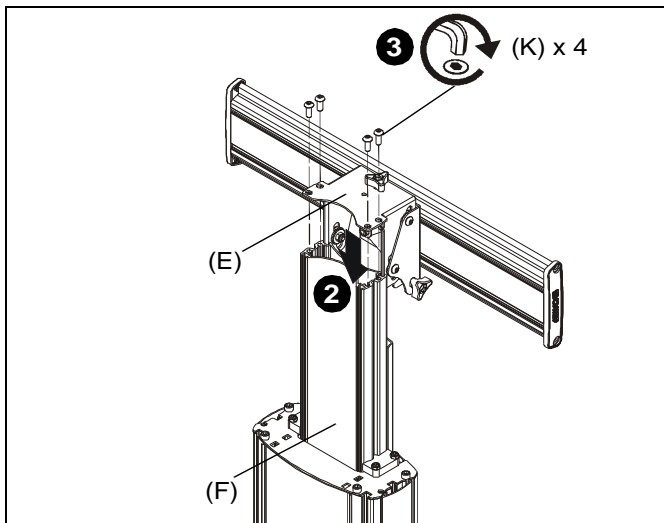

Figure 2
2. Slide interface head assembly (E) into column assembly (F). (See Figure 2)